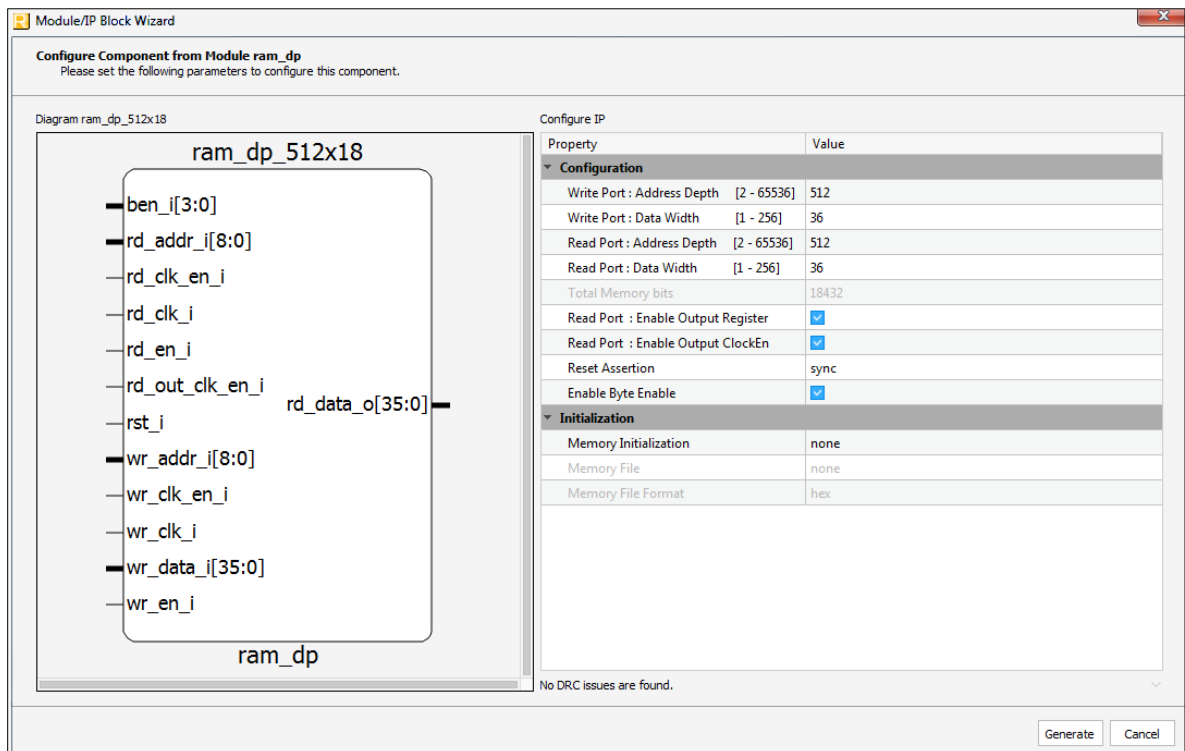

Figure 2.4. Example: Generating Pseudo Dual-Port RAM RAM_DP Module Customization – General Options
4. Customize the EBR-based DPRAM in the **Module/IP Block Wizard** window, as shown in Figure 2.4.